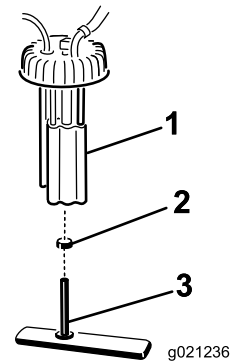

Figure 52
4. Remove the fuel pump cap from the top of the fuel tank (Figure 52).
5. Remove the fuel pump assembly and fuel filter from the tank (Figure 52).
6. Remove the clamp securing the fuel filter hose to the fuel pump fitting. Remove the hose from the fitting (Figure 52).